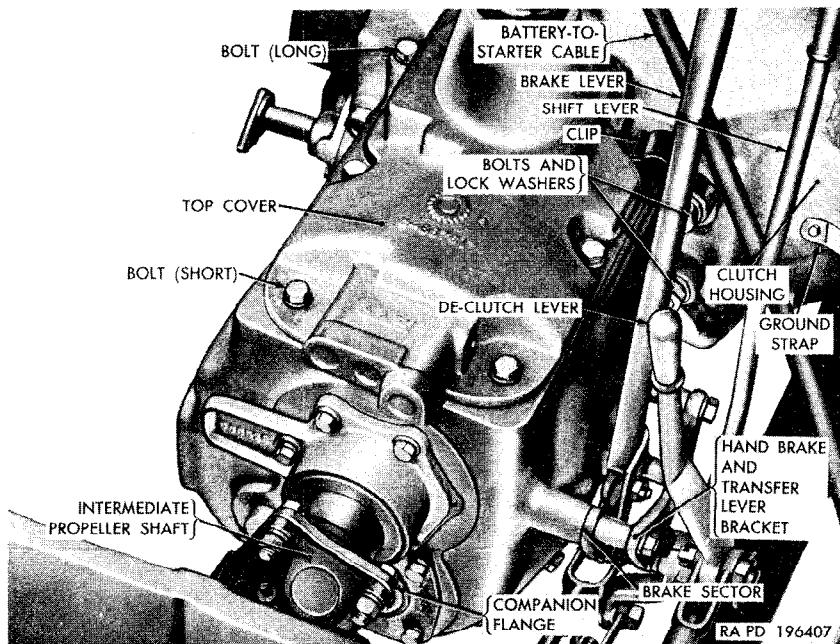

Figure 160. Transmission installed.
- (1) Remove the transmission access cover (par. 121g).
- (2) Disengage the battery-to-starter cable from the cable clip (fig. 160).
- (3) Install a $\frac{3}{8}$ -inch lockwasher and $\frac{3}{8}$ -16NC \times $1\frac{1}{8}$ bolt for the left front bolt opening (fig. 160) and a $\frac{3}{8}$ -inch lockwasher and $\frac{3}{8}$ -16NC \times $\frac{3}{8}$ bolt for each of the other five openings, attaching the cable clip at the right front corner. Tighten the bolts evenly.
- (4) Engage the battery-to-starter cable in the cable clip.
- (5) Install the transmission access cover (par. 122f).
- (2) Remove the three screws and lockwashers that secure the handbrake and transfer lever bracket to the right side of the transmission case.
- (3) Disengage the battery-to-starter cable from the clip on the transmission top cover (fig. 160).
- (4) Remove the four nuts, lockwashers, and bolts that secure the intermediate propeller shaft to the companion flange on the transmission (fig. 160). Secure the shaft to keep it off the floor.
- (5) Remove the four bolts and lockwashers that secure the transmission to the clutch housing. Using jacks or a dolly move the transmission straight back to disengage the main shaft from the clutch housing and the splined yoke of the winch drive shaft from the drive shaft. Lower the transmission and remove it.
- (6) If the transmission is to be replaced, remove the winch drive shaft rear universal joint from the power-takeoff drive shaft (par. 183a(4)).
- (1) Clean the machined surfaces of the transmission and the clutch housing thoroughly.
- (2) Install the winch drive shaft rear universal joint on the power-takeoff drive shaft (par. 183c(1) and (2)).
- (3) Using jacks or a dolly, position the transmission and move it forward to engage the transmission shaft in the clutch; at the same time, guide the winch drive shaft into the front yoke of the rear universal joint on the power-takeoff drive shaft, alining the universal joint journals. Do not attempt to force the transmission into the clutch by hammering or other extreme methods.
- (4) Install the four $\frac{9}{16}$ -inch lockwashers and $\frac{9}{16}$ -12NC x $1\frac{3}{4}$ bolts. Tighten the bolts evenly. Remove the jacks or dolly.
- (5) Connect the intermediate propeller shaft to the transmission companion flange and install the four $\frac{7}{16}$ -20NF x $1\frac{1}{4}$ bolts, $\frac{7}{16}$ -inch lockwashers, and $\frac{7}{16}$ -20NF nuts. Tighten the nuts evenly.
- (6) Engage the battery-to-starter cable in the clip on the transmission cover (fig. 160).